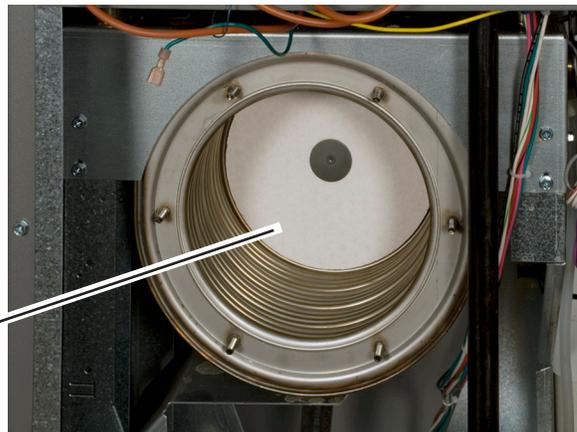

Fig. C5-11 - Inside of heat exchanger (new unit)
15. Figure C5-11 shows the inside of the heat exchanger.
The heat exchanger in Fig. C5-11 is new, so it is clean. Figure C5-12 is a photo of a dirty heat exchanger.